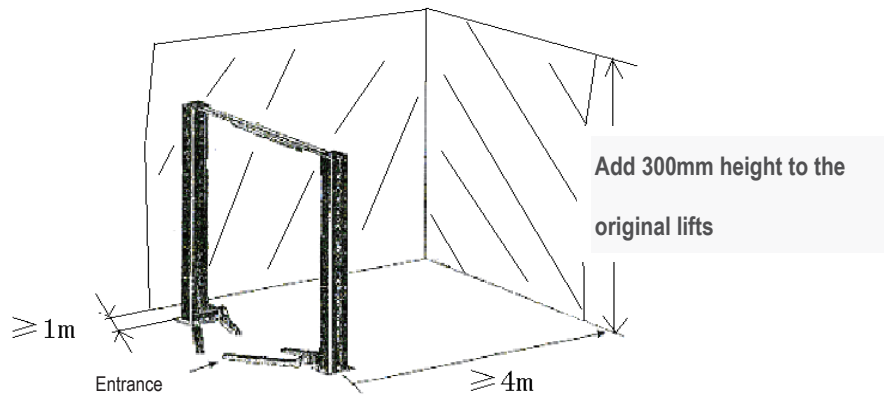
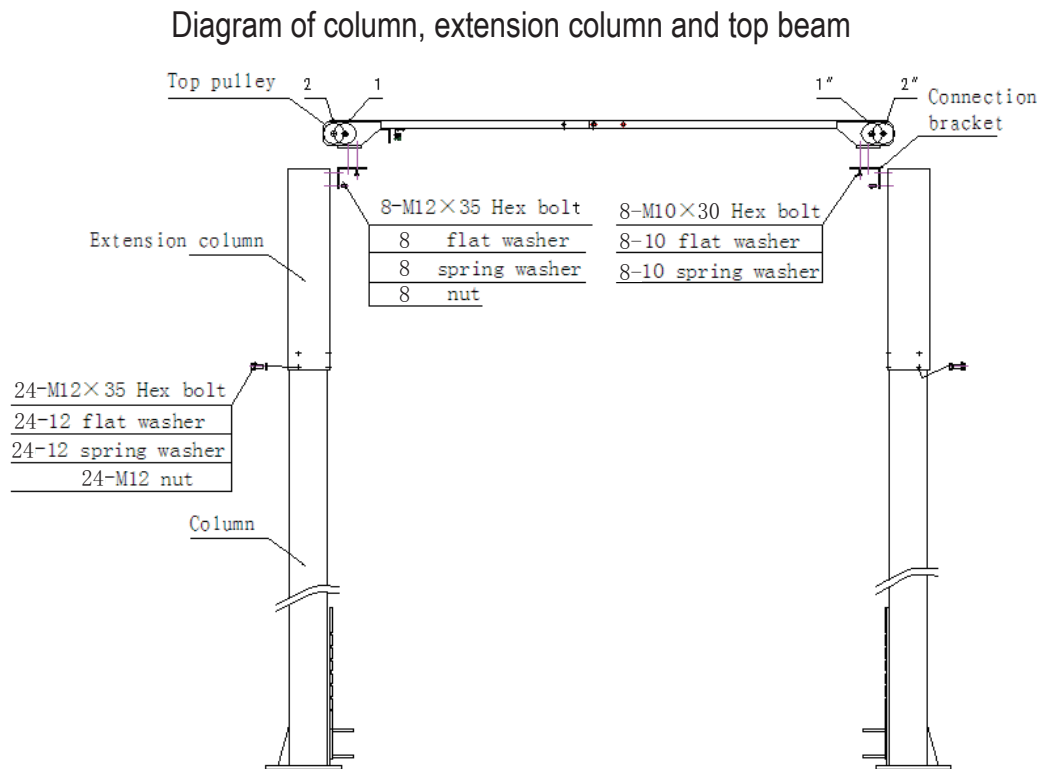

Fig 8
Fig 12
- The front and back of the lift should be reserved with sufficient space to accommodate all the vehicles(Fig.8).
Position the offside column at the designated chalk location. Lift the top beam to its high position, and use bracket and fasteners to fix it with the columns (as shown in Fig. 8). When installing the top beam, ensure the above micro switch support bracket adjacent to the power side column. In Fig 12: The symmetric top pulleys are to be installed at